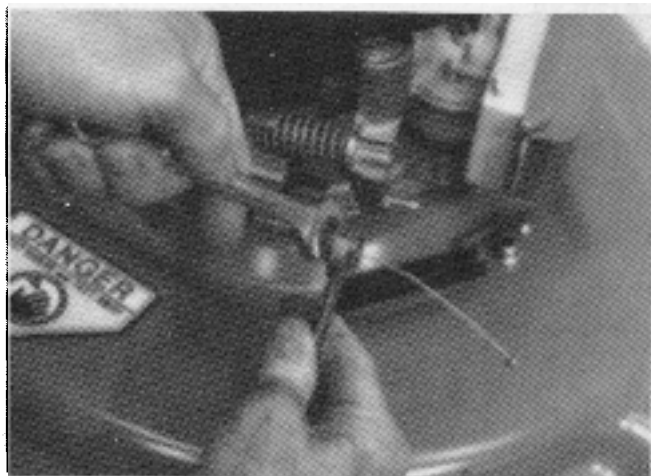

Figure 10
**NOTE:** Use 2 1/2" open end wrenches. (See Fig. 10).